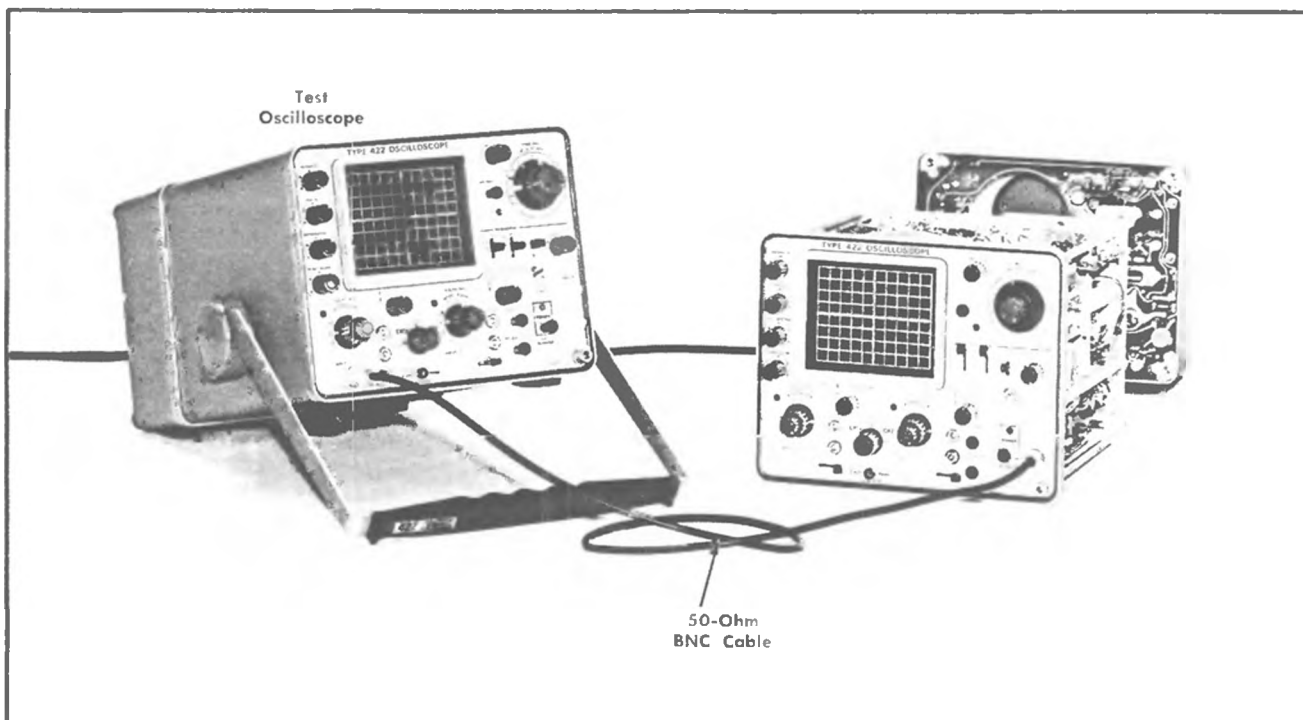

Fig. 6-57. Test equipment setup for step 52.
- Test equipment setup is shown in Fig. 6-57.